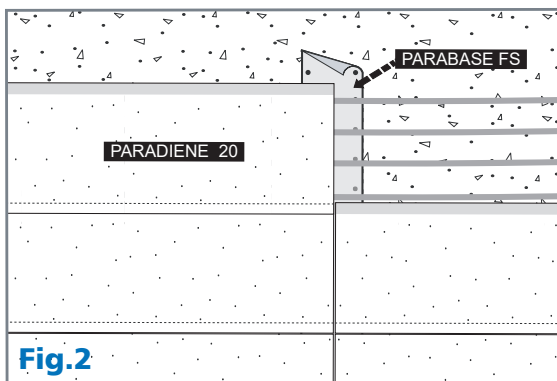

Fig.2
5. Place a 12" wide strip of Parabase FS centered beneath the area where adjoining sections of Paradiene 20 base ply will be seamed. Abut adjoining ends of the base ply. Do not lap. (See Figure 2.)